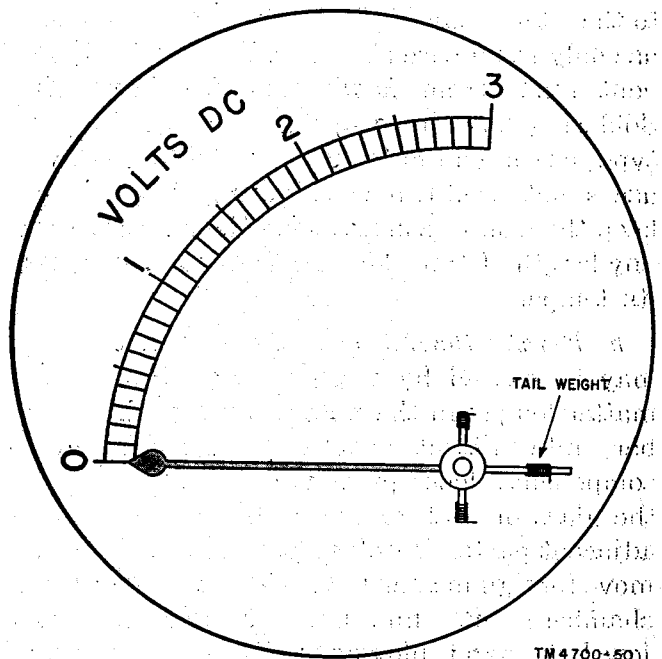

Figure 31. Tail weight.
- (3) To check the tail weight, continue to hold the meter in an upright position and turn it clockwise or counterclockwise until the pointer is horizontal. If the pointer will not come to zero, the tail weight (fig. 31) requires adjustment.
- (4) For proper adjustment of the horizontal balance weights and the tail weight, refer to paragraph 34a.
- (4) *Locknut balance weight.* The locknut balance weight (fig. 31) has three or four threads near the end of the nut, which are usually smaller than the thread on the shaft. Never force this type of weight. Forcing will damage the threads and cause the weights to shift under vibration. The locknut balance weight has a hexagonal end. Use a balance wrench of the correct size when making adjustments.